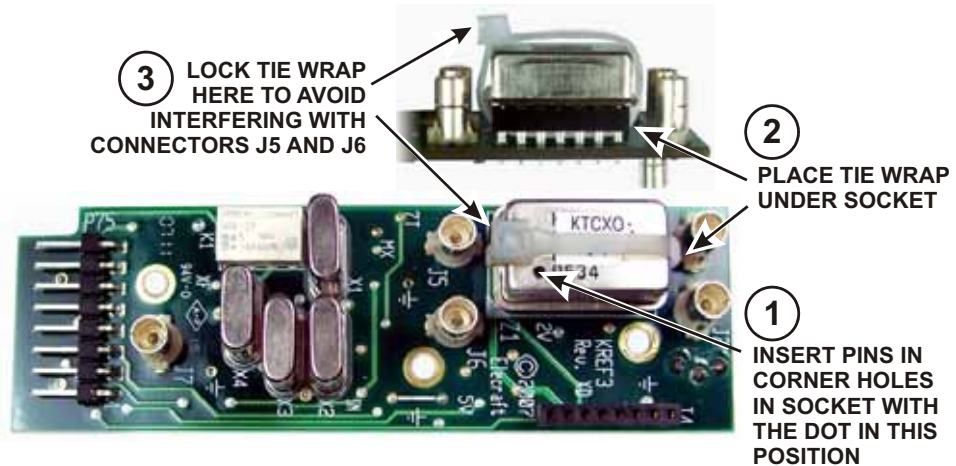

Figure 57. Mounting KTCXO Module on KREF3 Board.
□ Mount the KXTCO module on the KREF3 board as shown in Figure 57. The bottom of the module should rest against the socket. Be certain the leads go into the corner holes in the socket and the black dot is oriented toward connector J6 as shown. If you have a 1ppm high-stability module, the dot may be light brown and not as close to the corner. If the module has only three leads, the missing lead will be in the corner with the dot.